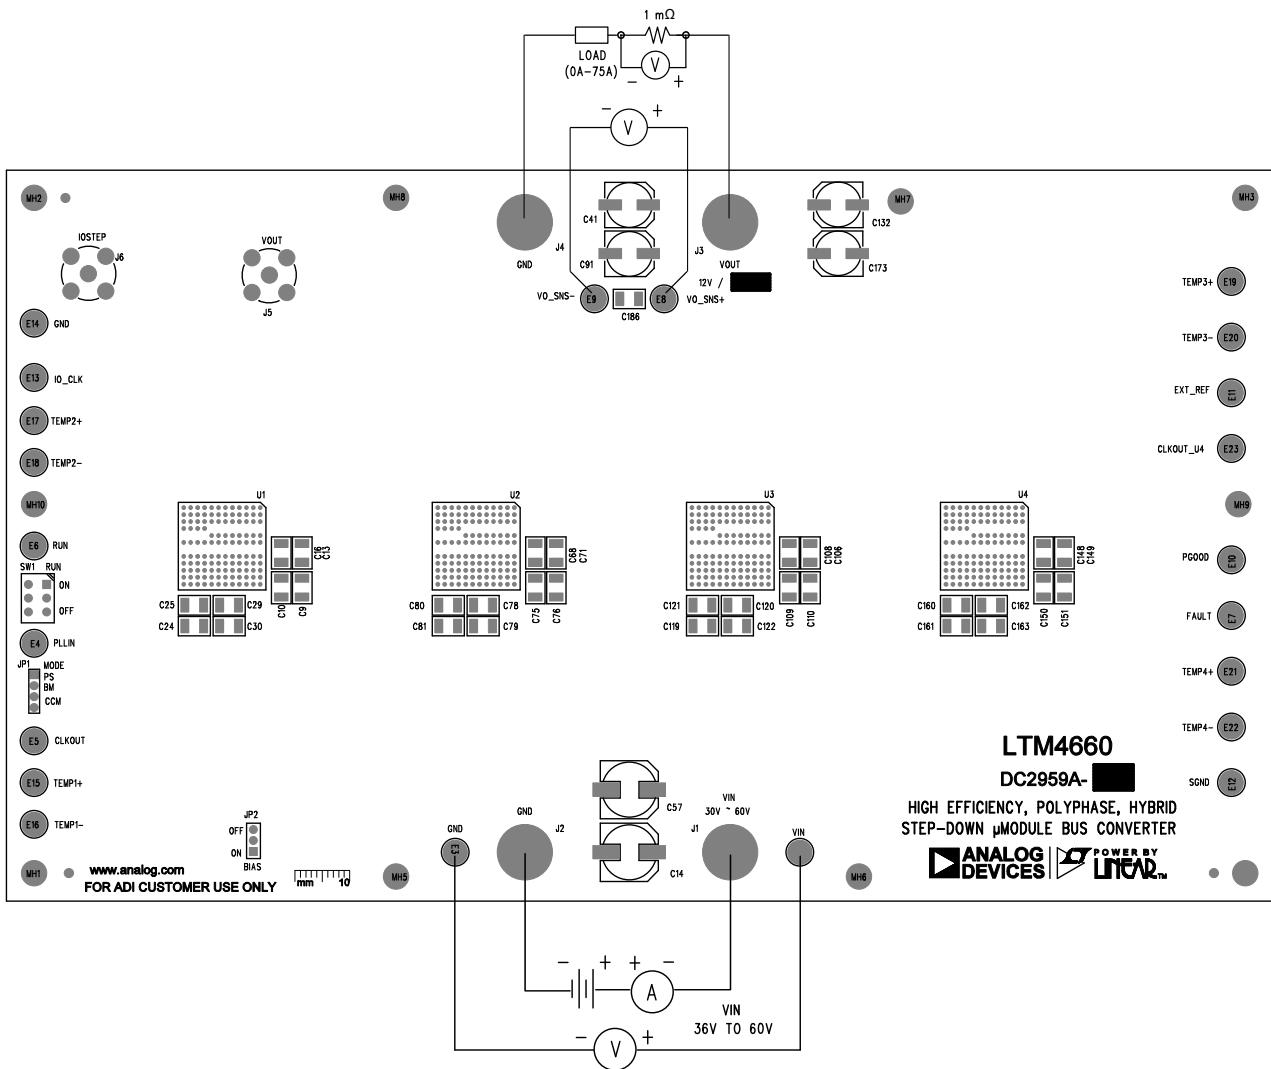

Figure 2. Proper Measurement Equipment Setup
Demonstration circuit 2959A-B is easy to set up to evaluate the performance of PolyPhase operation of the LTM4660. Due to the high input/output current, users should select the proper input supply/load/cable which can sustain the full load operation. Refer to Figure 2 for the proper measurement equipment setup and follow the procedure below.
2. Connect the output load between V_{OUT} and GND (Initial load: no load). Refer to Figure 2.